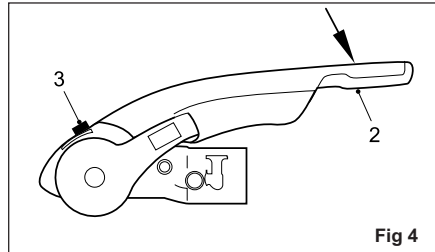

Fig 4
**WARNING: The coupling is correctly engaged when the green edge of the safety indicator button is visible (Fig. 4/ Item 3).**
- To operate the Stabiliser (once coupled to the towball), simple press the stabiliser lever down as far as it will go (Fig. 4/Item 2).